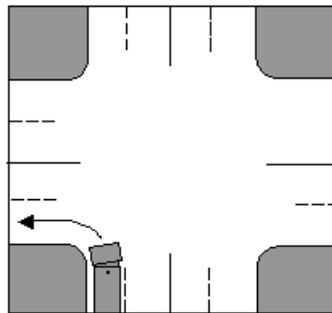
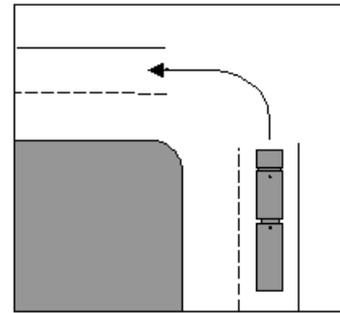

Fig 7
Fig 7a
33.3.3 left from a laned road, you must begin your turn from the left-hand lane that is as near as practicable to the left side of the road (Fig 7). Alternatively, if your vehicle displays a "DO NOT OVERTAKE TURNING VEHICLE" sign, you can turn from a marked lane next to the left lane (Fig 7a).